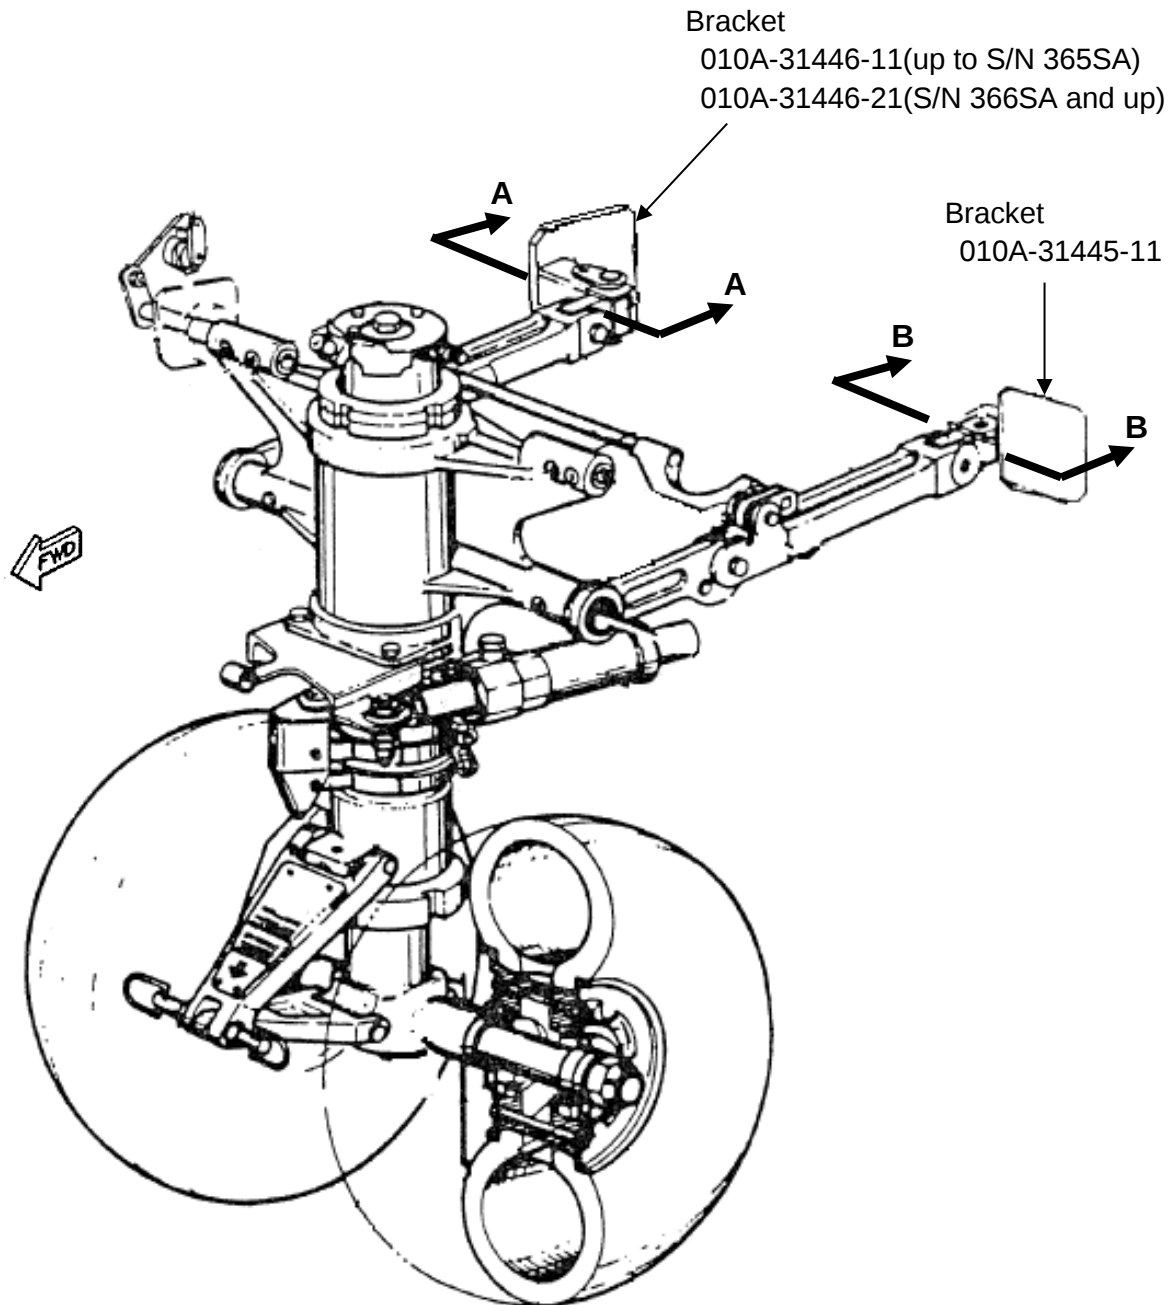

Figure 4: Drag Strut to Fuselage Bracket Location
- (1) Visually inspect NLG Drag Strut to Fuselage Brackets (010A-31445-11, 010A-31446-11 (up to S/N 365SA) and 010A-31446-21 (S/N 366SA and up)) for crack in the area shown in Figure 4 and 5.